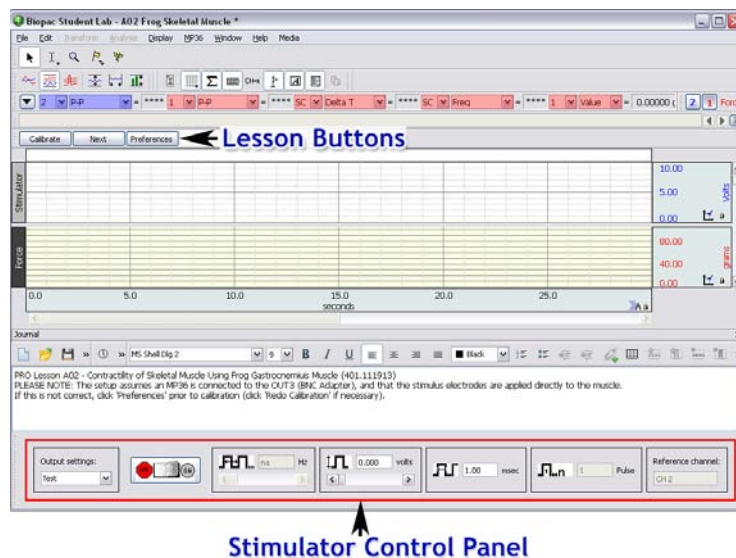

Figure 7
10. Enter in a unique name and click OK. A folder with that name will be created and at the end of the lesson the data file will be automatically stored in this folder. Figure 7 shows the basic controls.